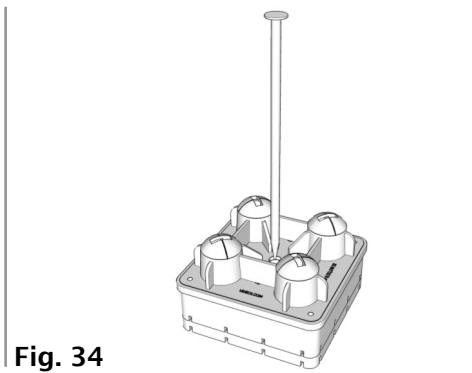

Fig. 34
**IMPORTANT:** If you intend to purchase and install UDECX leveling components; 1" Shims (G) and/or 3" Risers (H), you will need to anchor the Pier (A) and all 1" Shims (G) or 3" Risers (H) with an 18" Spike (J). See Fig. 34
*(NOTE: All Risers (H), Shims (G) and Piers (A) need to be secured with 18" Spikes (J). (Fig 34)*